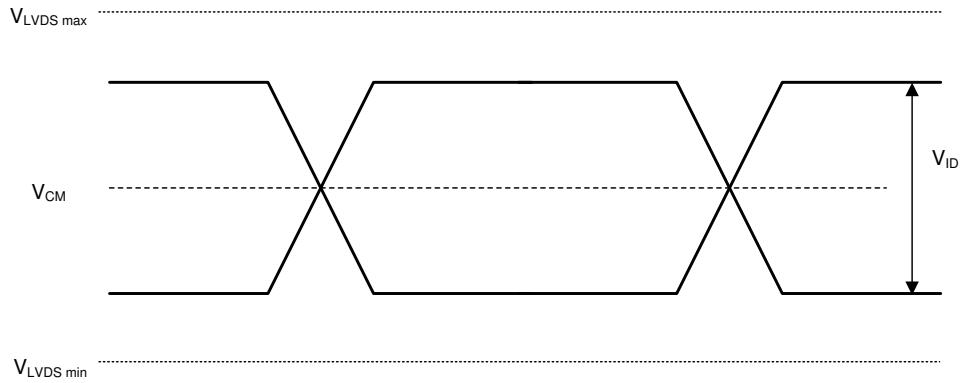

图 6-5. LVDS Waveform Parameters
- (1) All voltages are referenced to common ground V_{SS}. V_{DD}, V_{DDI}, and V_{CC2} power supplies are all required for proper DMD operation. V_{SS} must also be connected.
- (2) V_{CC2} supply transients must fall within specified max voltages.
- (3) To prevent excess current, the supply voltage delta $|V_{DDI} - V_{DD}|$ must be less than the specified limit. See the DMD Power Supply Requirements.
- (4) PWRDNZ input pin resets the SCP and disables the LVDS receivers. The PWRDNZ input pin overrides the SCPENZ input pin and tristates the SCPDO output pin.
- (5) See LVDS clock timing requirements in Timing Requirements.
- (6) See Figure 6-5 for the LVDS waveform requirements.
- (7) Simultaneous exposure of the DMD to the maximum Recommend Operating Conditions for temperature and UV illumination reduces device lifetime.